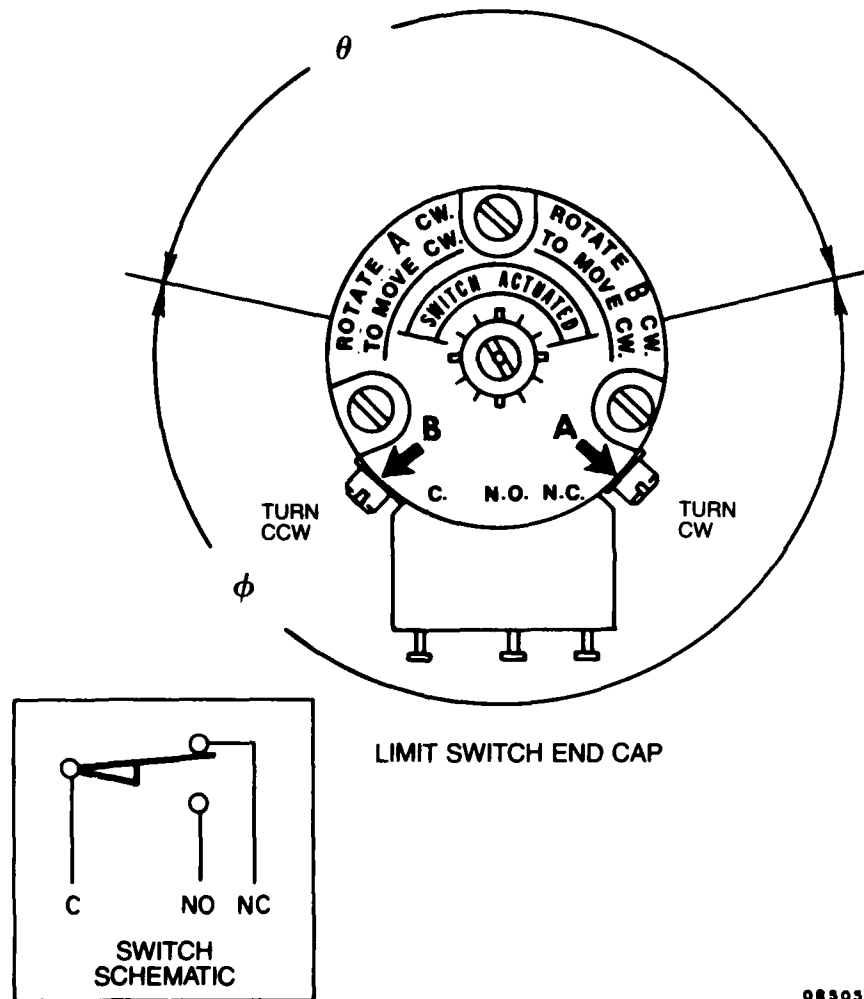

Figure 5.1. Limit Switch Adjustment
5.3.3. Limit switch adjustment. The limit switches of both axes are predjusted and need not be touched unless a different limit angle is required. The azimuth axis is adjusted to provide a travel of +120 degrees before contact is made. The elevation axis is adjusted to provide -20 degrees to +55 degrees before contact is made. Both limit switches are adjustable cam switch assemblies - Precision Mechanism Corporation (PMC) type CS-402-4. Adjustment procedures follow in this section (Figure 5.1).
5.3.3.2. Adjusting procedure. Follow the given procedures and see Figure 5.1 to adjust limit switches.
a. Follow procedure printed on end cap (Figure 5.1).
b. For switch closure angle ''0'' of 182° or less, wire to ''Common'' (C) and ''Normally Open'' (N.O.). Rotate adjusting screws according to instructions on end cap.